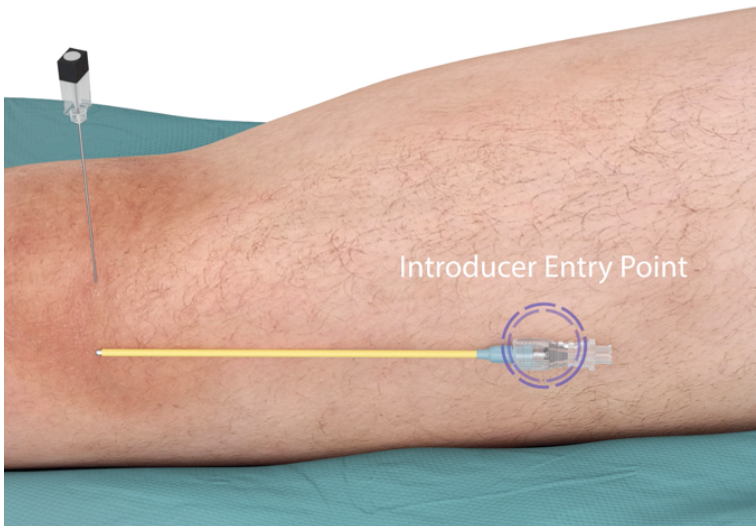

Figure 2
1. If necessary, make a puncture incision before inserting the introducer assembly. (Figure 2 and 3)